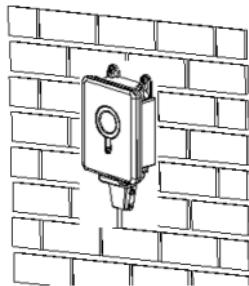

Fig 2-6 Install Solar Bee
5) Hang the Solar Bee on the screws fixed to the wall. Tighten the screw with a screwdriver slightly. Fig 2-6 as below